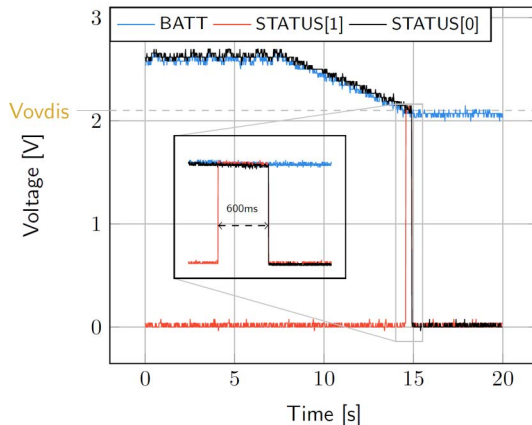

Figure 4: LDOs disabled around 600 ms after **BATT** reaches V_{OVDIS}
- **BATT**: Voltage decreases as the system consumes the power accumulated in the storage element. The voltage remains stable after crossing **V_{OVDIS}** (see Figure 4).
- **STATUS[0]**: De-asserted when the LDOs are no longer available as the storage element is running out of energy. This happens 600 ms after **STATUS[1]** assertion (see Figure 4).
- **STATUS[1]**: Asserted for 600ms when the storage element voltage (**BATT**) falls below **V_{OVDIS}** (see Figure 4).